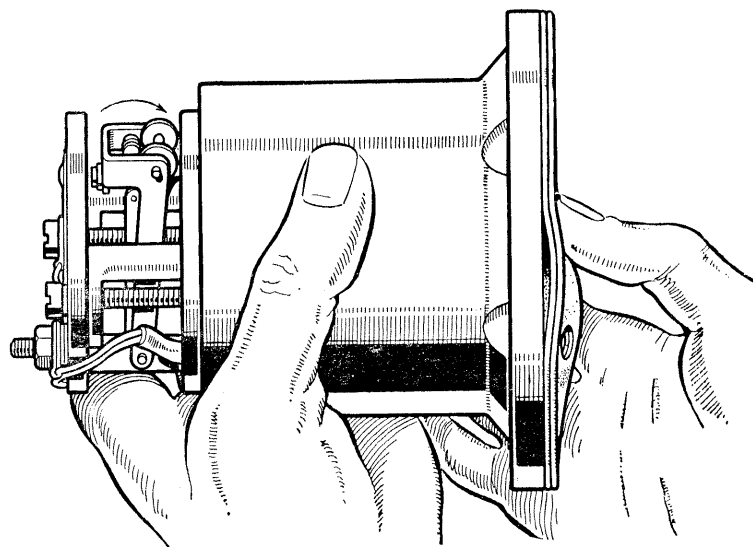

Fig. M-18—Armature adjustment
13. Fit the impact washer (N) in the recess of the armature.
16. Hold the magnet assembly in the left hand in an approximately horizontal position. Push the armature in firmly but steadily, with the thumb of the right hand (Fig. M-18).